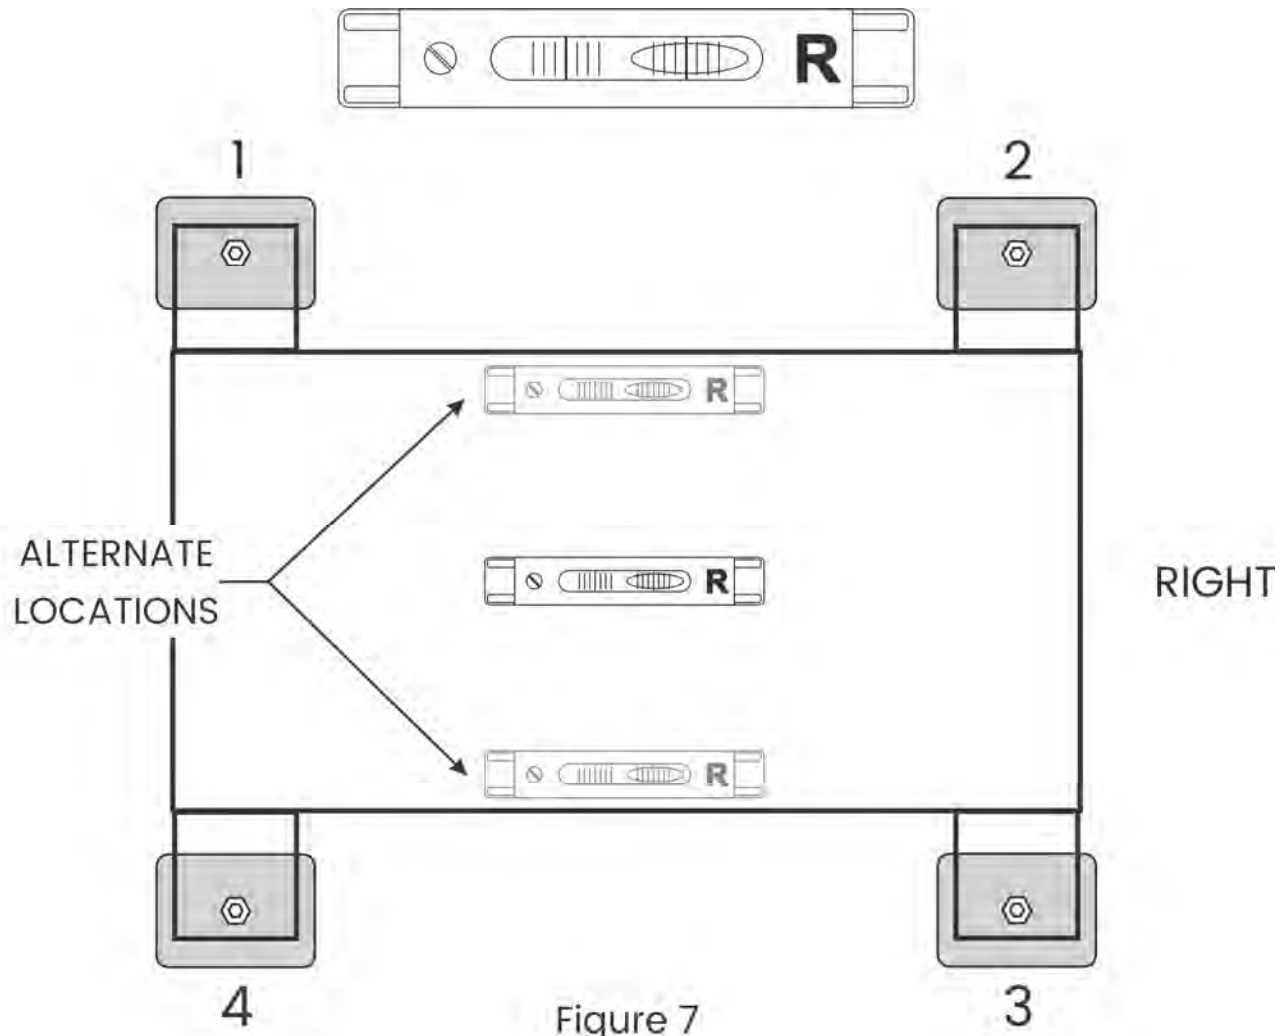

Figure 7
- If your level condition is as shown in Figure 7, the left side of the press is low. Raise feet 1 & 4, alternately and in small increments, until the press is level at both level locations.